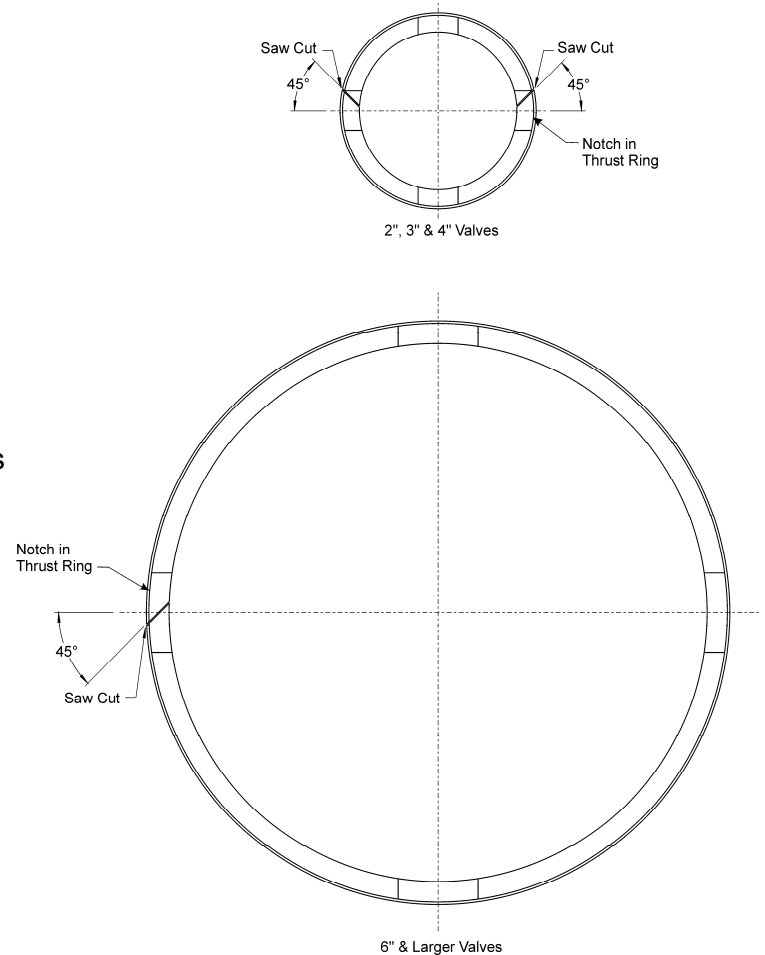

Figure 7
Note: Replacement thrust rings (A16) are shipped as a one piece solid ring and require one or two saw cuts prior to installation. See Figure 7 for details.
- a. Saw cut both the new thrust rings (A16) at a 45 deg angle starting near the top and outside of two opposite notches in the thrust ring. See Figure 7.
- a. Saw cut both the new thrust rings (A16) at a 45 deg angle starting near the center and outside of one of the notches in the thrust ring. See Figure 7.